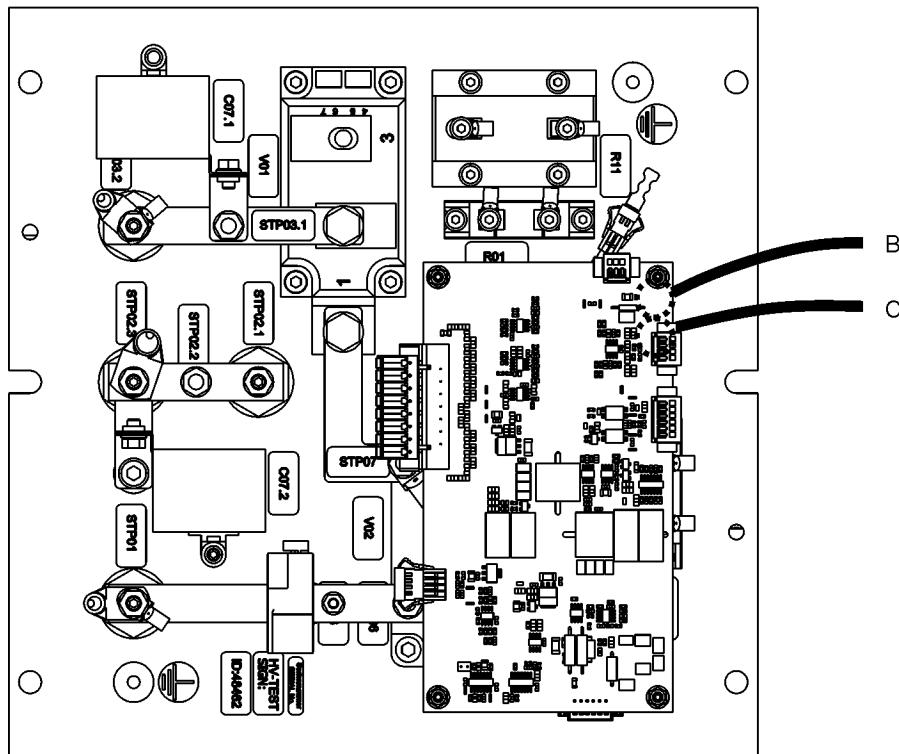

Figure 5-19: R104.1-2 Electrical Connections on A101
- b. Disconnect cable on the A101 module (see Figure 5-19). Each resistor has a lead that is terminated on the A101 module. Consult the figure and legend for the applicable STP point on the A101 to disconnect. The cables are fastened with M6 nut, M6 Schnorr washer and M6 washer. Remove these fasteners and disconnect the resistor from the A101 module.
- b. Connect cable on the A101 module (see Figure 5-19). Each resistor has a lead that is terminated on the A101 module. Consult the figure and legend for the applicable STP point on the A101 to connect. The cables are fastened with M6 nut, M6 Schnorr washer and M6 washer. Connect the cable and affix these fasteners to connect the resistor to the A101 module.